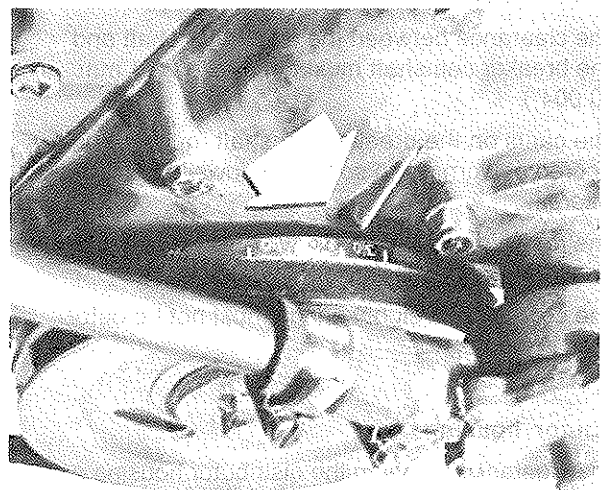

Fig. H6. Graduation for firing position (4-cyl. engine)
1. Clean the pulley or flywheel damper, whichever the case may be, in order to be able to see the graduation marks, see Fig. H6.